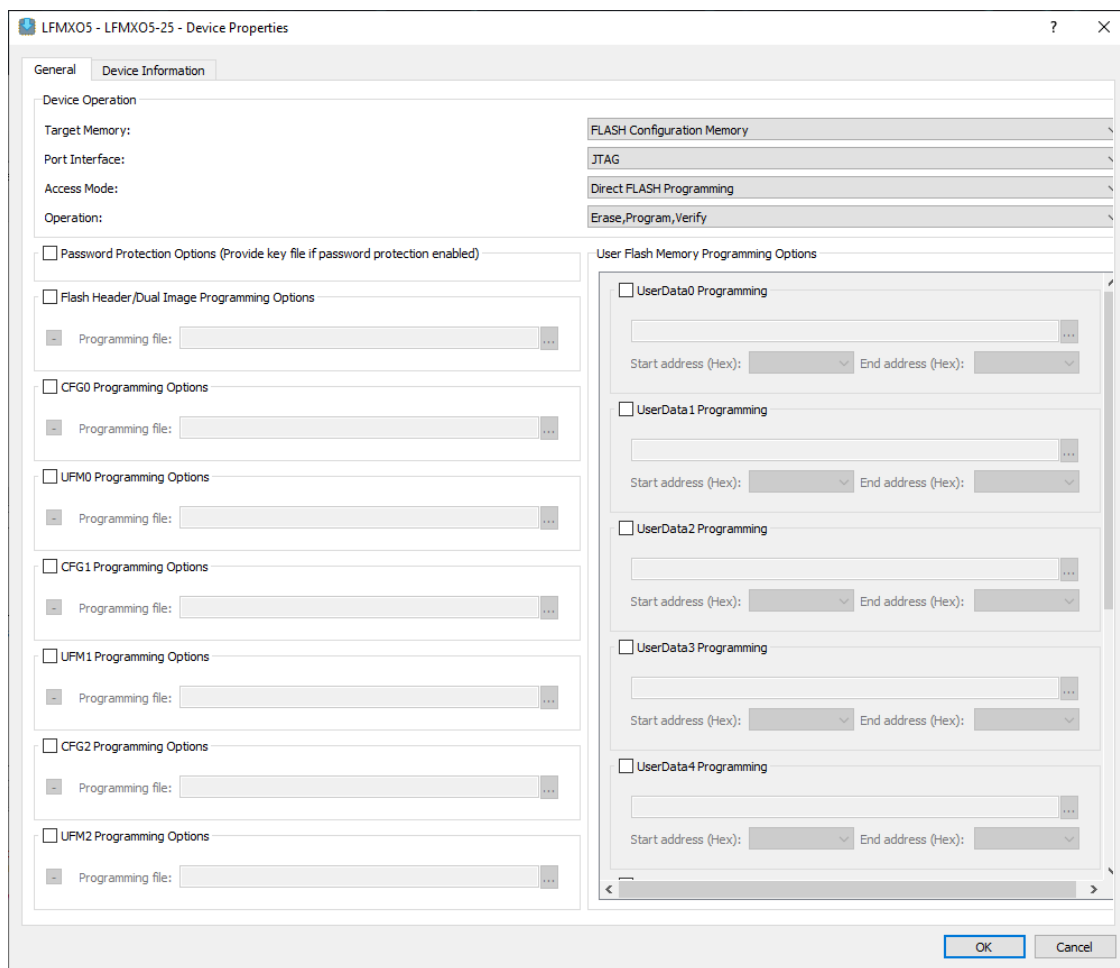

Figure 8.1. Radiant Programmer – Device Properties Window
5. The **Device Properties** window opens (Figure 8.1).